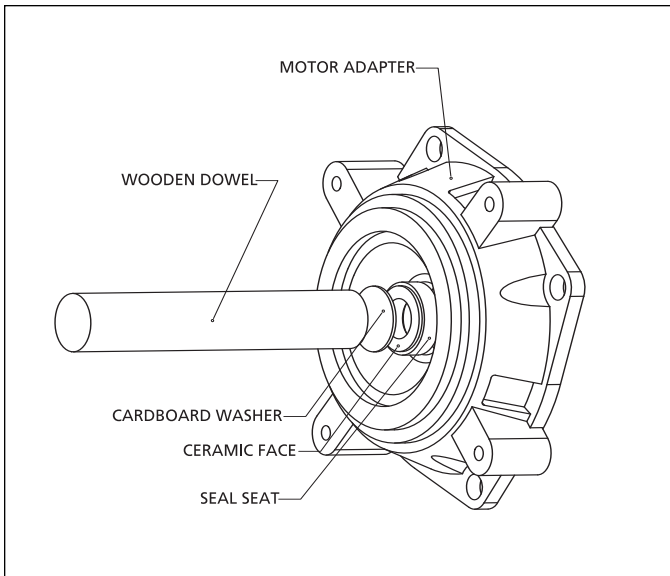

Figure 6 - Seal Seat Assembly
3. Wet the rubber portion of the new seal seat (Ref. No. 4) with a light coating of soapy water. While wearing clean gloves or using a clean light rag, press seal seat squarely into adapter recess. Use the cardboard washer (usually supplied with new seal) to place over the polished surface and use a piece of pipe or dowel rod to press in firmly but gently. Avoid scratching the white ceramic face. (See Figure6).